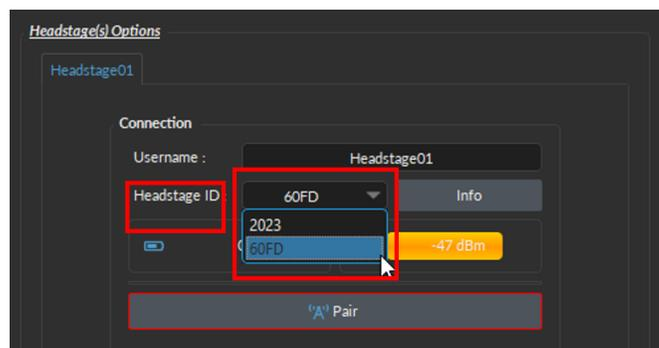

Figure 2.6: Select Head stage
- Now in "Headstage ID" drop-down list, select the right headstage (Figure 2.6).